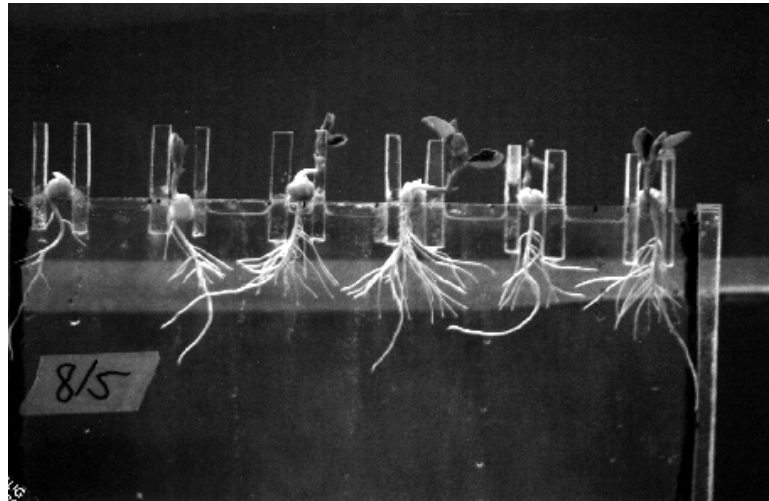

Figure 5.11: Typical root growth results.
5. If you have a digital camera, take an image of your root system through the rhizotron cell similar to that shown in Figure 5.11. If you have a scanner, take a picture of the root system, and scan the photograph. This should be done periodically, roughly once a week. Be sure to record root dimensions in your lab notebook and save all your images.